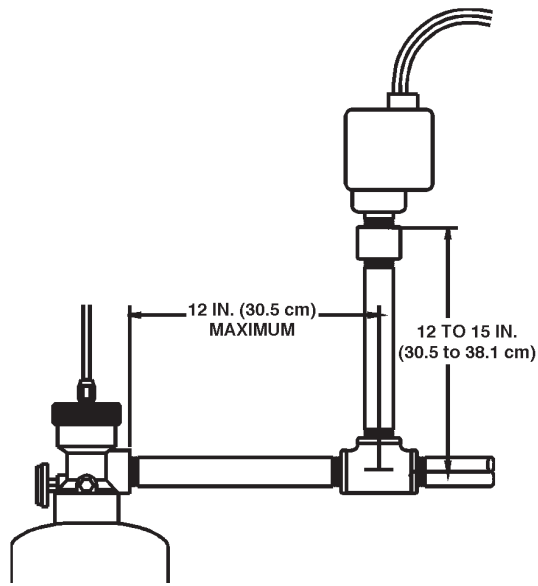

Figure 4-29. Pressure Switch Installation.
- ▶ the discharge piping within 12 in. (30.5 cm) of the valve discharge port as shown in **Figure 4-29**. An inline tee is used for the installation. The switch is isolated from the chemical